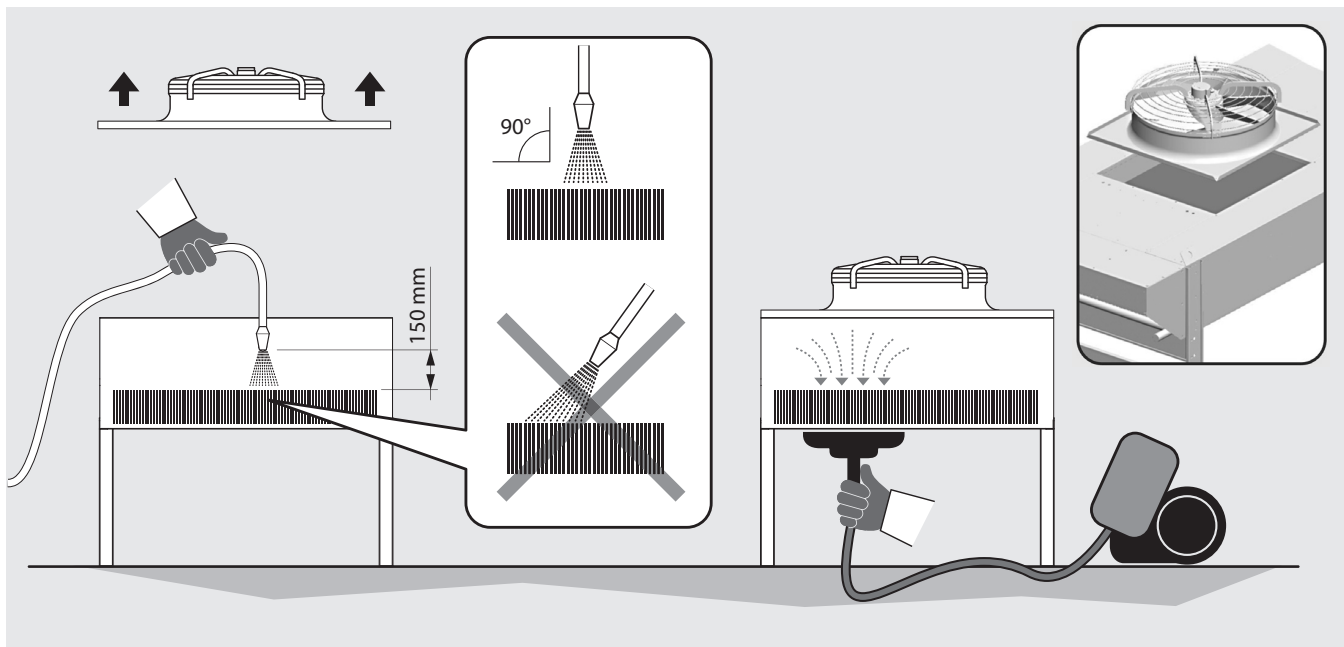

Figure 11
11.11 Cleaning of the finned pack (see Figure 11):